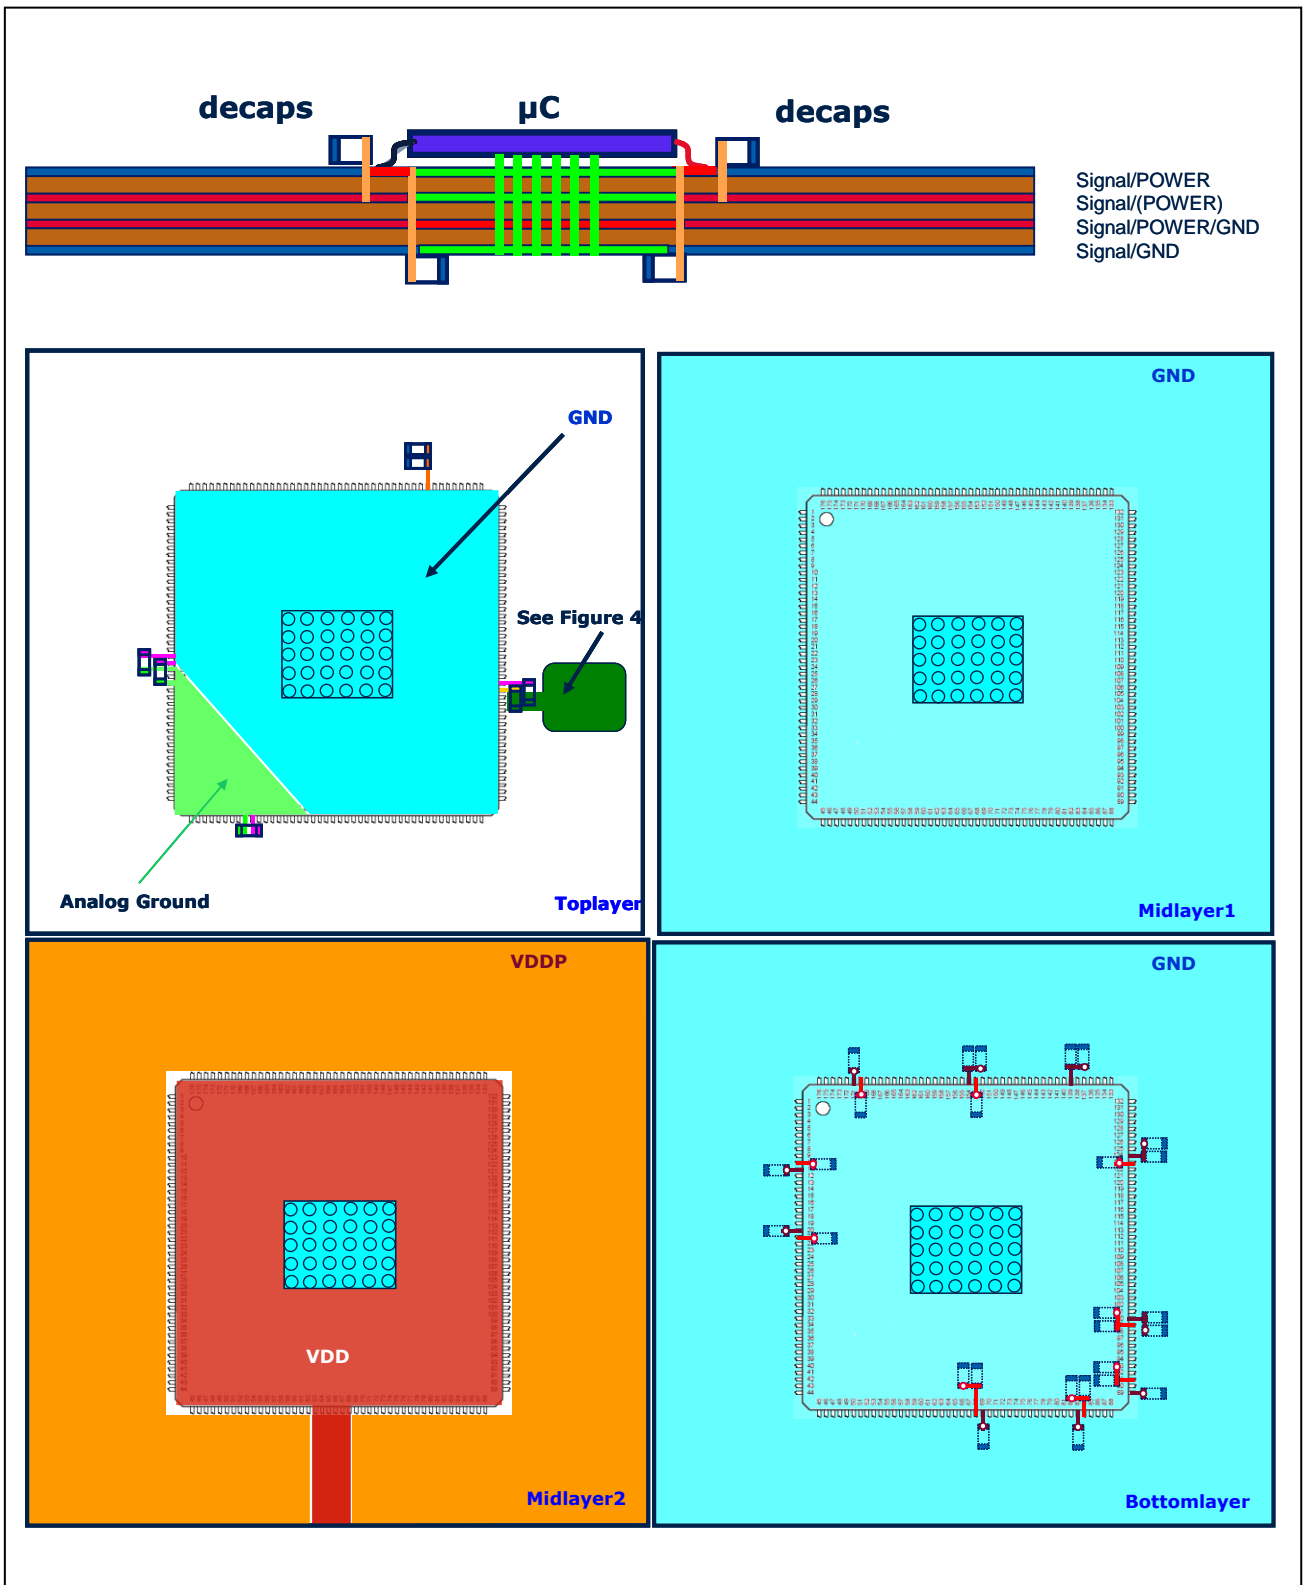

Figure 3 Layout example for decoupling of TC1782 (LQFP-176)
- The two supply domains VDD and VDDP of TC1782 should be decoupled separately. Figure 3 shows an example placement of decoupling capacitors. The decoupling capacitors for VDDC domain should be referenced to the GND area of exposed pad in order to get a smaller current loop. The remaining decoupling capacitors for VDDP should be referenced to GND-Leads of the package. (See decoupling layout example in Figure 3).
A power-plane/grounding concept example for a 32-bit microcontroller like TC1782 with LQFP-176 package can be seen in Figure 3. Alternative implementations are also acceptable and must be evaluated within application by customer.